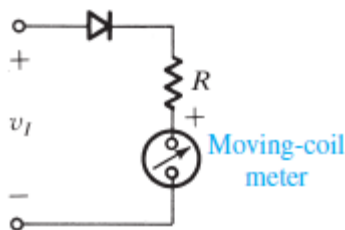

Figure x1.4
- x1.2** Figure x1.4 shows a circuit for an ac voltmeter. It uses a moving-coil meter that gives a full-scale reading when the *average* current flowing through it is 1 mA. The moving-coil meter has a 50-Ω resistance. Find the value of R that results in the meter indicating a full-scale reading when the input sine-wave voltage v_I is 20 V peak-to-peak. (*Hint:* The average value of half-sine waves is V_p/π .)